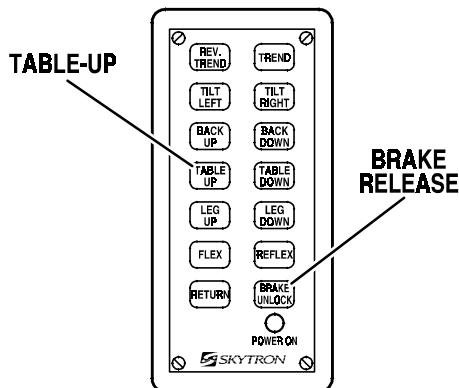

Figure 3-3. Brake System Activation
**a. Floor Lock/Brake System.** To activate the brakes without affecting table positioning, press the TABLE UP button. See figure 3-3. The elevation cylinder will not function until the brakes are completely extended.
Press the BRAKE UNLOCK button on the pendant control to release the four self-leveling brake feet in order to move the table. See figure 3-3. The brake delay circuit automatically retracts the brake system with just one press of the BRAKE UNLOCK button. It takes approximately 7-8 seconds to totally release the system.